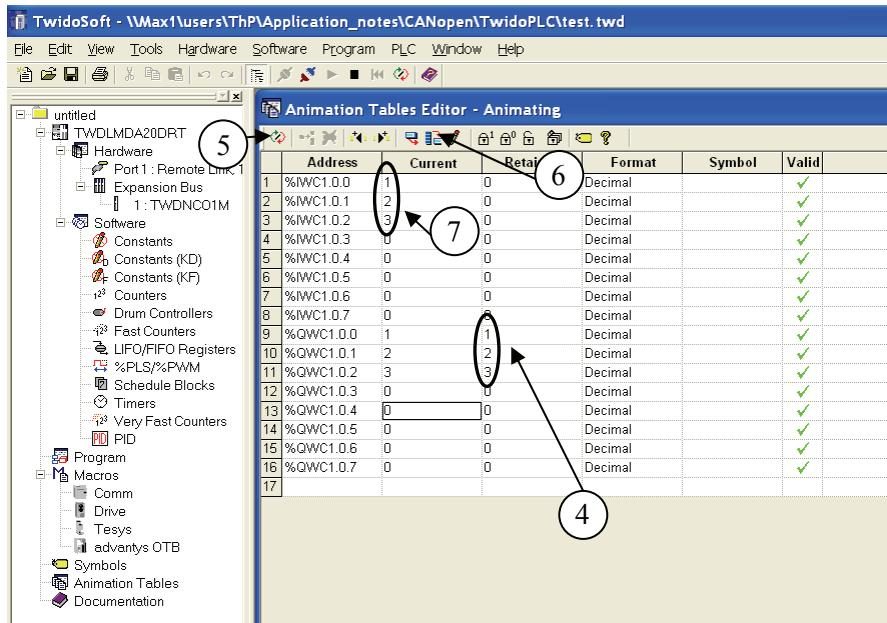

Figure 30 Monitoring the input and output data.
- The Output Data from the fieldbus can be seen at byte 200 to 203 **1** in the Out Area. The value is corresponding to the value written in Figure 30 Monitoring the input and output data.
- Data to the fieldbus can be seen at byte 0 to 2 in the In Area **2**. The value is corresponding to the value read in Figure 30 Monitoring the input and output data.
The window above shows the Output data from the PLC. The data value is corresponding to the data value written in Figure 30 Monitoring the input and output data.